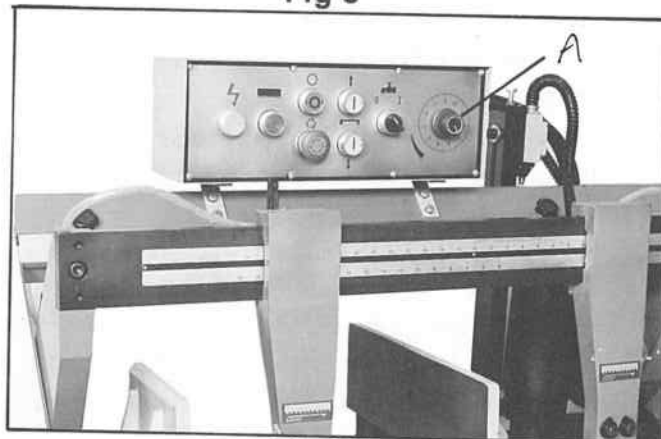

Fig 9
When the feed control valve (A) Fig. 9 is turned clockwise as far as it will go, the saw frame will not move down. By turning the feed control valve counter-clockwise, you regulate the flow of oil from the cylinder and determine the speed at which the saw frame will lower and the blade will feed through the work. Too many factors are involved to make tabulated data practical on feed rates. As a general rule, an even pressure without forcing the blade gives best results. Avoid forcing the blade at the start as this may shorten blade life and produce a bad cut. By inspecting the chips while the cut is begun made will indicate whether the feed rate is correct. Fine powdery chips indicate a feed rate which is too light. The teeth are rubbing over the surface instead of cutting. Burned chips indicate excessive feed which causes the teeth to break off as the blade overheats. The ideal feed rate is indicated by chips that have a free curl and this will give the fastest cutting time and longest blade life.